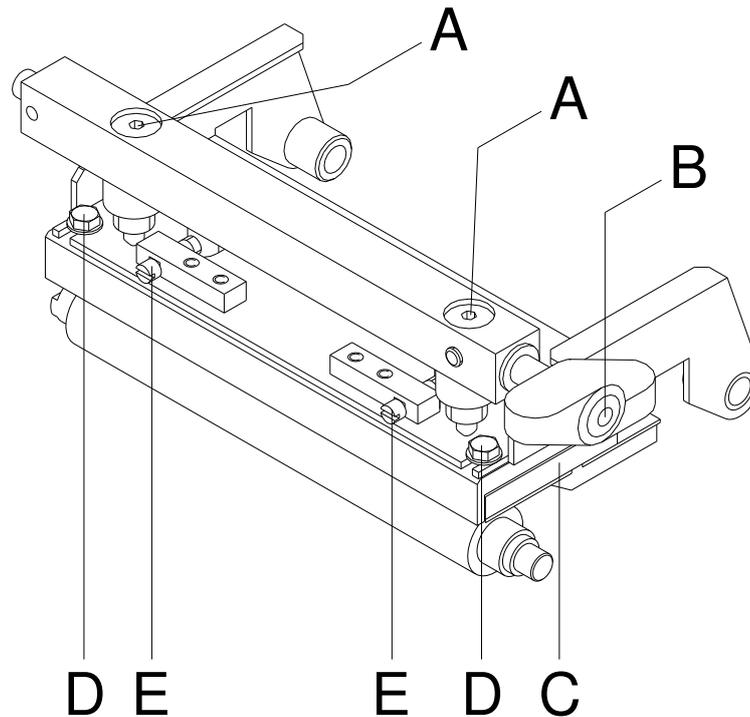

Figure 17
1. Loosen the screws (D, Figure 17) with a hexagon key by approx. $\frac{1}{4}$ rotations.
2. Adjust the parallelism with the adjusting screws (E, Figure 17).
4. Tighten again screws (D, Figure 17).
1. Turn pressure screws (A, Figure 17) to change the pressure of printhead.
2. Turning the pressure screws (A, Figure 17) in clockwise direction results in a pressure increase.
3. Turning the pressure screws (A, Figure 17) counter clockwise results in a pressure decrease.